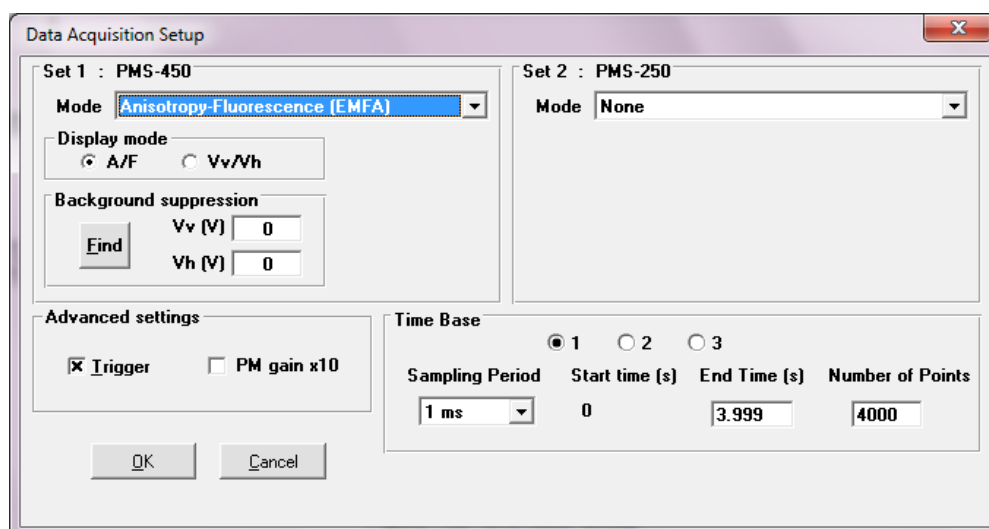

Figure 154: Data acquisition setup window
- The data acquisition window in anisotropy mode is presented in Figure 154.